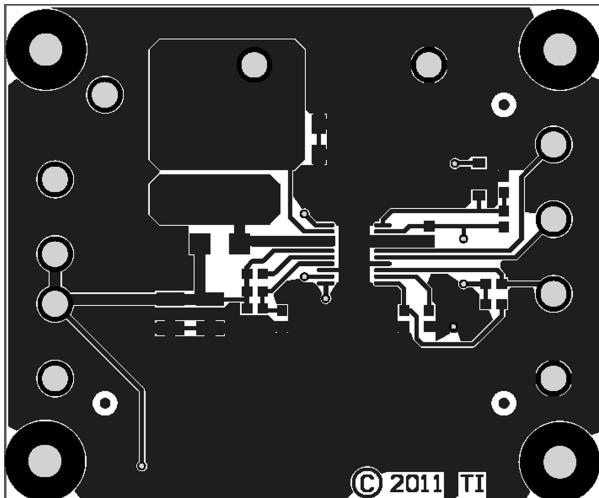
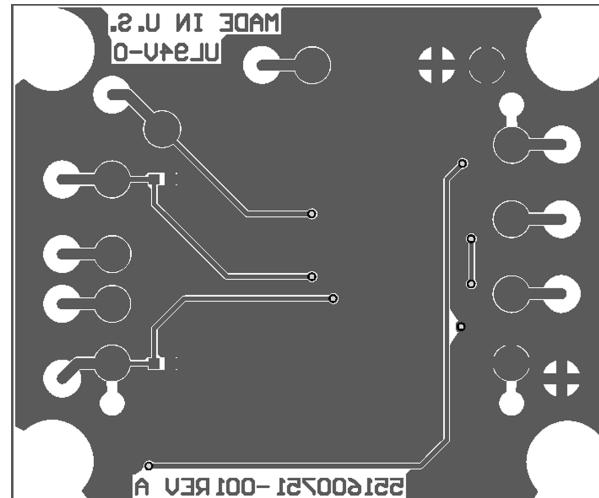

Figure 3. LM3492HC Evaluation Board Top View
Figure 4. LM3492HC Evaluation Board Bottom View
**RRT and RIREF**: The resistors RRT and RIREF set the switching frequency fsw of the boost converter and the LED current ILED respectively. From the LM3492HC datasheet, RRT is selected to be 274 k $\Omega$  if fsw is 500 kHz (Figure 3), and RIREF is selected to be 8.25 k $\Omega$  if ILED is 150 mA (Figure 4).